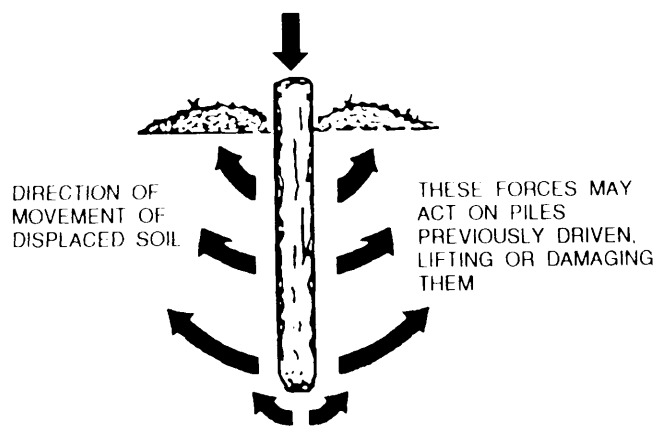

Figure 12-68.-Displacement of clay soil caused by driving solid piles.
2. Clay soils are hard to compress in pile driving; hence, a volume of soil equal to that of the pile will usually be displaced (fig. 12-68). The ground will heave between and around the piles. Driving a pile alongside those previously driven will frequently cause those already in place to heave upward. If the piles are driven through a clay stratum to firm bearing beneath, the heave may destroy the contact between the tip of the pile and the firm stratum. Such cases may be detected by taking a level reading on the top of the piles previously placed. Piles which are raised appreciably should be redriven to a firm bearing. Soil displaced by the pile may cause enough lateral force to move previously driven piles out of line.